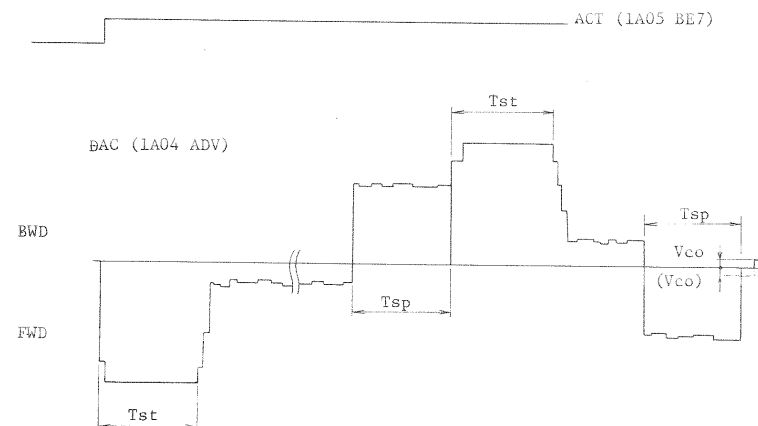

Fig. 3 DAC output (Forward Start/Stop)
2. Set command code S25 and perform the Forward Start and Stop operation. (See Fig. 3.)
3. Trigger the leading edge of signal ACT (at 1A05 BE7), and then check that the time Tst and Tsp shown in Fig. 3 or Fig. 4 satisfies the specification in Table 3.